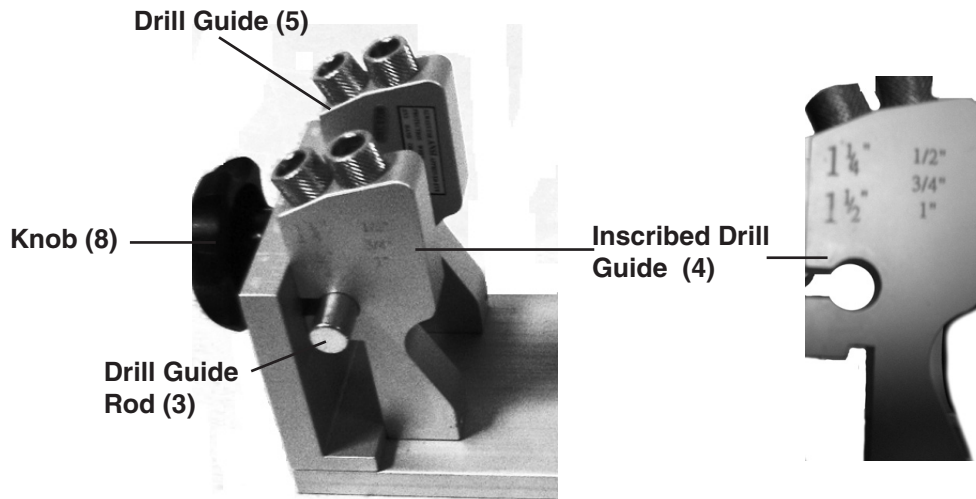

Figure 2
2. Slide the Drill Guides (4 & 5) onto the Drill Guide Rod (3). The drill bit measurements on the Inscribed Drill Guide (4) should be facing outwards. **(See Figure 2)**
3. Align the indexing lines on the back of the Drill Guides (5) with the rule on top of the mounting bracket.